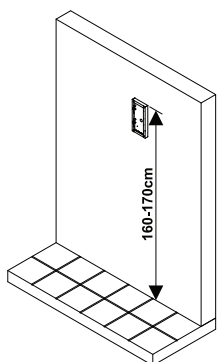
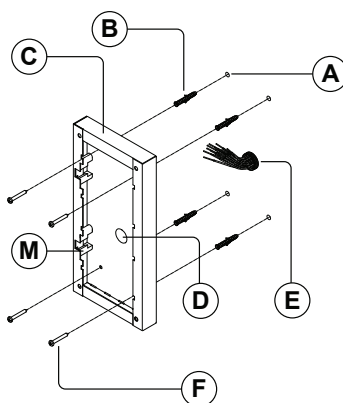

Fig. 46
Fig. 47
1. Place the surface box against the wall (165-170cm between the top of the box and the floor level as shown in **Fig.46**) and mark the fixing holes **(A)** for the wall plugs **(B)** and the hole for the cables **(E)** (**Fig.47**). Observe the orientation of the surface box with the hinge mount **(M)** on the left;
2. As shown in **Fig.47**, drill the fixing holes **(A)**, insert the wall plugs **(B)** and feed the cables **(E)** through the surface box opening **(D)**, fix the surface box **(C)** to the wall using the screws **(F)**;